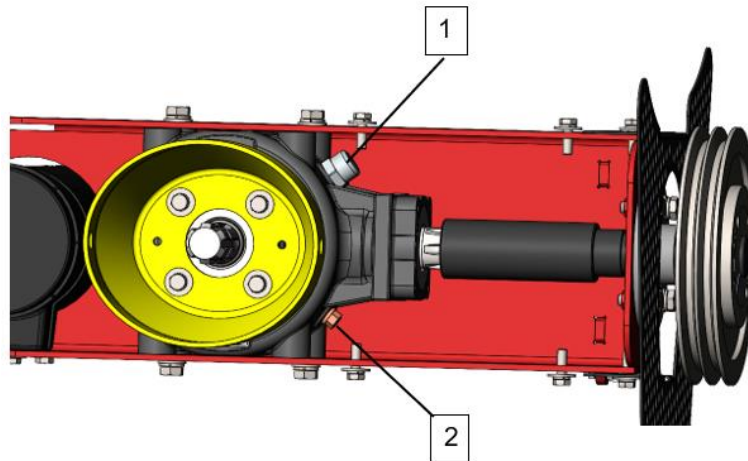

Fig. 14
4. Remove the breather ((1) Fig. 14).